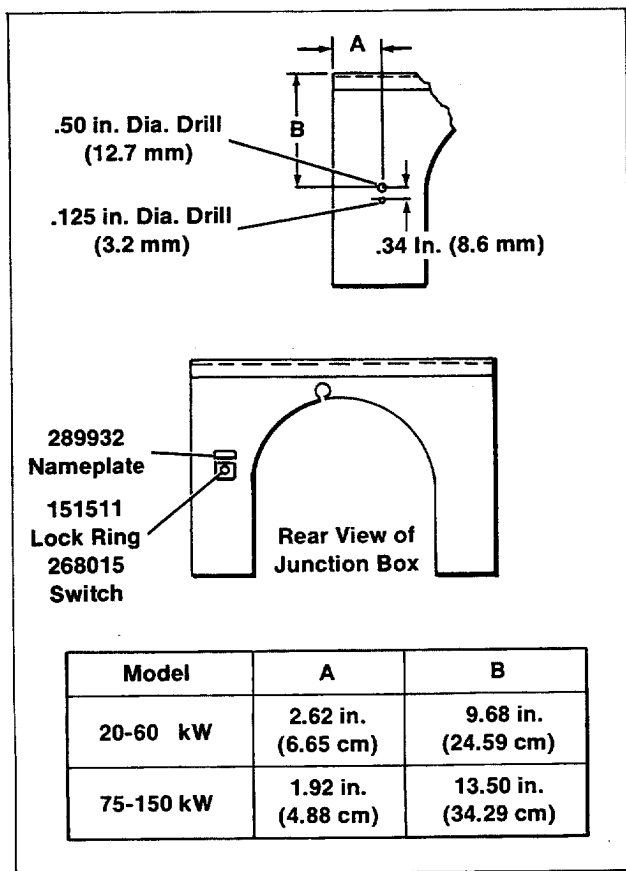

Figure 3. Horn Switch Mounting
9. Drill .50 in. (12.7 mm) diameter and .125 in. (3.2 mm) diameter holes in junction box as shown in Figure 3.